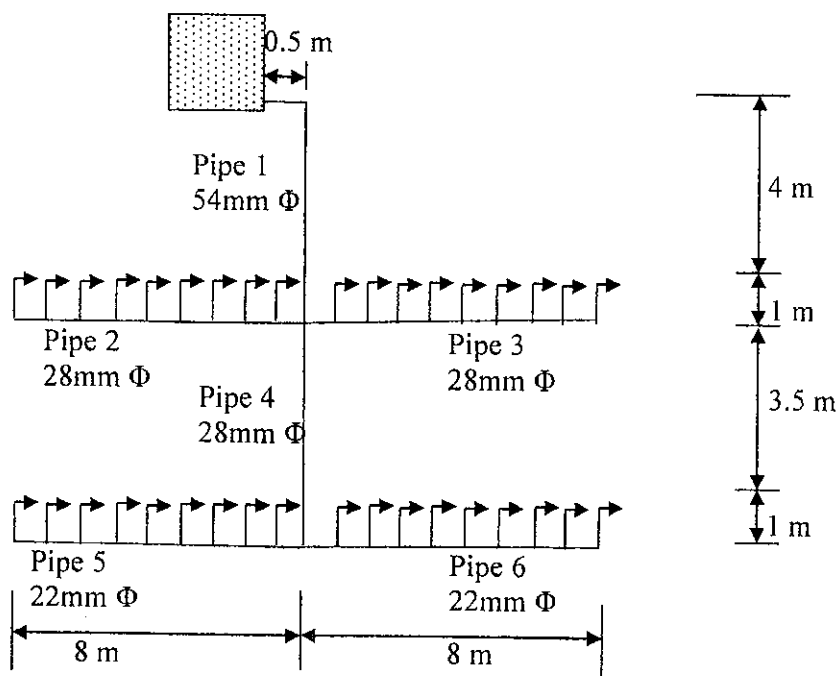

Figure Q2: Pipe Network for the Garment Factory
- c) A garment manufacturing company owns a two-storey building in an urban area. Layout of the pipe network (PVC) for this building is shown in Figure Q2. Pipe 2 and pipe 5 consist of six water closets, two showers and a sink (with 13mm tap). Pipe 3 and pipe 6 consist of six urinals, two showers and a sink (with 13mm tap).
Urinals (4.0 l capacity) are operated in every 30 minutes. Two main pipes (pipe 1 and pipe 4) are controlled by stop valves located at the beginning of each pipe. Outside diameters of each main and branch pipes are also given in Figure Q2. During peak hours, it is noted that water outflow from some appliances are not adequate. Therefore, company wants to check whether provided diameters are sufficient or not. Assuming that you are given this assignment by the company, determine the diameters of main distribution pipe and two branch pipes at 2nd floor and, give your recommendation regarding each pipe diameter. PVC pipes are to be used for the entire pipe network. Information given in Data Sheets 4 and 5 can be used when answering the question. State any assumptions made in your calculations.